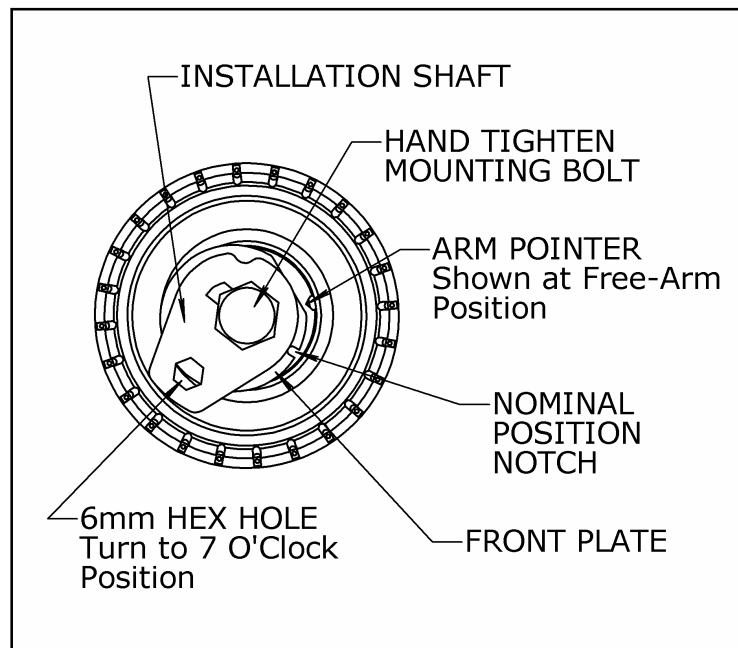

Figure 3: Initial Setup of the timing belt tensioner
6. Rotate the Installation Shaft until the 6mm Hex Hole is pointing at the "7 O'clock" position (Figure 3). This will maximize the belt clearance with the timing belt tensioner for ease of installation. Hand tighten the M8 Mounting Bolt (Figure 3).